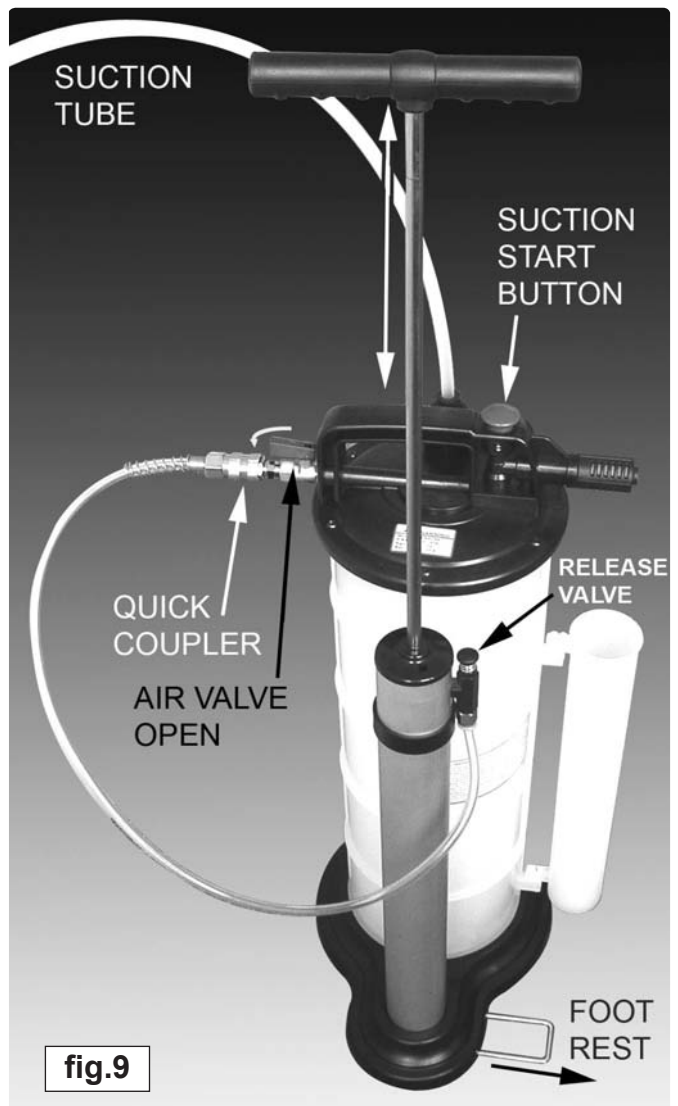

fig.9
- 6.2 Extend the bent rod foot rest as shown in fig.9.
- 6.3 Referring to fig.9 connect the quick coupler on the end of the air hose from the hand pump to the air valve coupling and open the air valve (only relevant to TP6904).